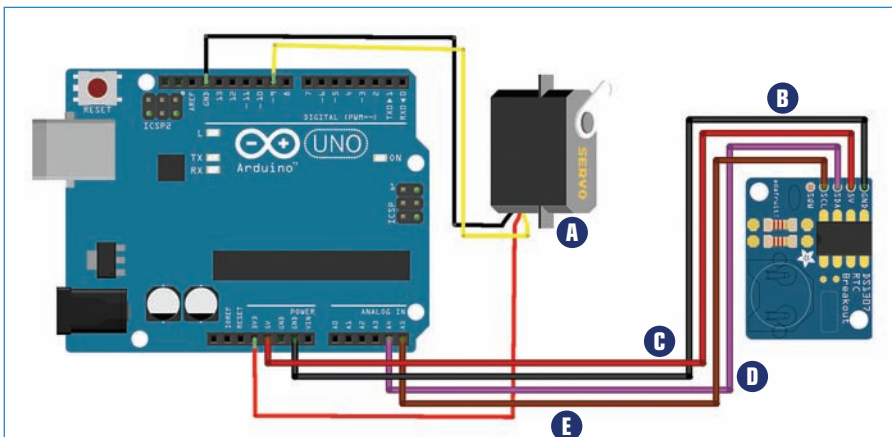

FIGURE 11.19 Connect the various components as you see here.
12. Wire up the various components, as shown in Figure 11.19.